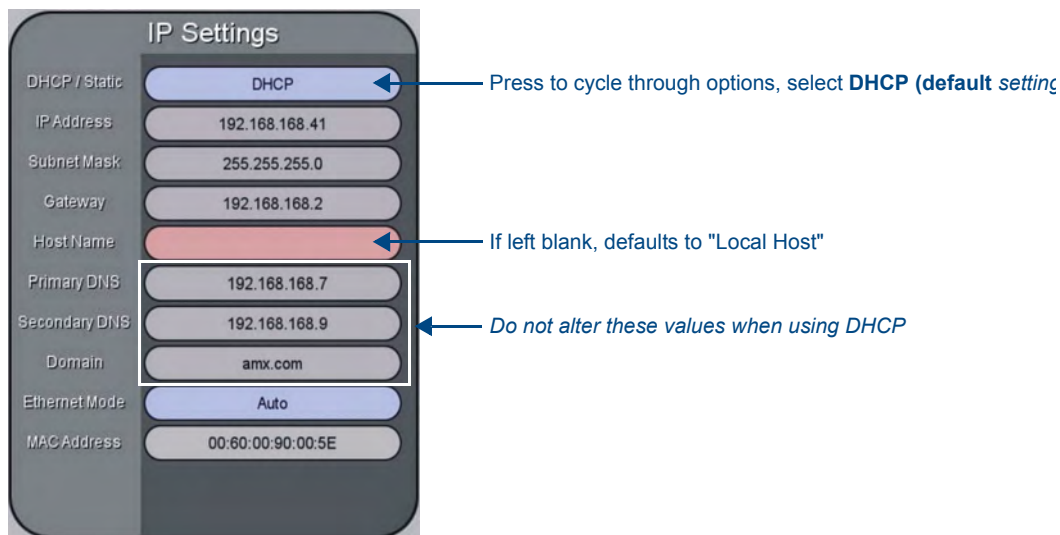

FIG. 42 System Settings page - IP Settings
2. In the *IP Settings* section (FIG. 42), press the **DHCP/Static** button until the choice cycles to **DHCP**.
2. In the *IP Settings* section (FIG. 42), press the **DHCP/Static** button until the choice cycles to **Static**.